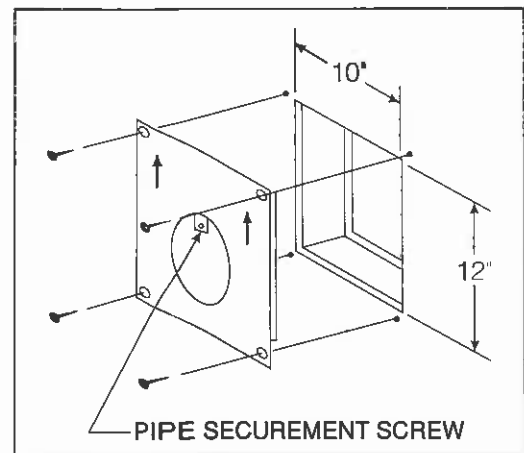

Figure 6
Position the interior wall shield into position and secure with (4) 1" fasteners, (1) in each corner. Bend the tab away from the wall and use a 1/2" screw to secure the pipe to the wall shield. See Figure 6.